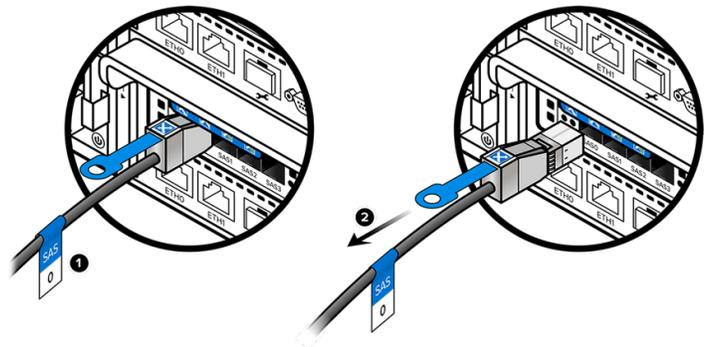

Figure 13-7. Disconnecting a SAS Cable
1. Attach a temporary label (included in your replacement kit) to each SAS cable you disconnect (**SAS0** through **SAS3**), to indicate the number and type of the corresponding port. See Figure 13-7.